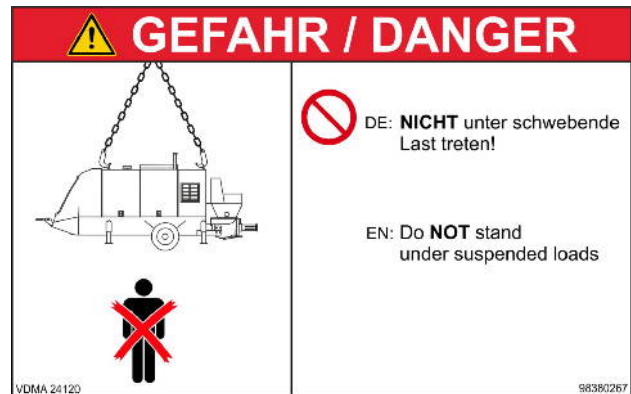

Fig. 1
- Use a suitable sling/lifting tackle and only attach it to the lifting eyes on the machine (Fig. 1,2).